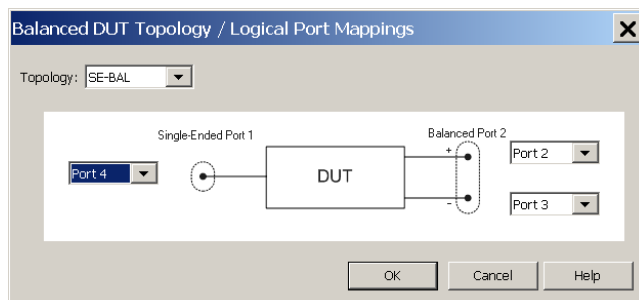

Figure 9 Logical Port Mapping for EO measurement
For EO measurement the single- ended (SE), logical port 1 is assigned to physical port 4 and the balanced (BAL), logical port 2 is assigned to physical ports 2 and 3 (see Figure 9 on page -111).